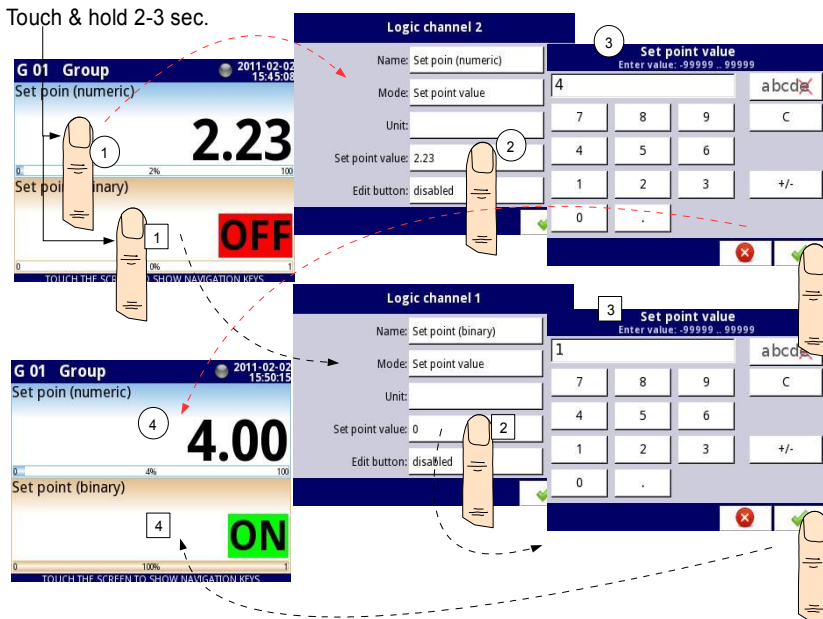

Fig. 7.50. Configuration of the value for Logical channel in **Set point value** for the disabled button
- **disabled** - the button is disabled on the display, in this case the data source of logical channel will be the value set in the **Set point value** parameter, (see **Fig. 7.50**),